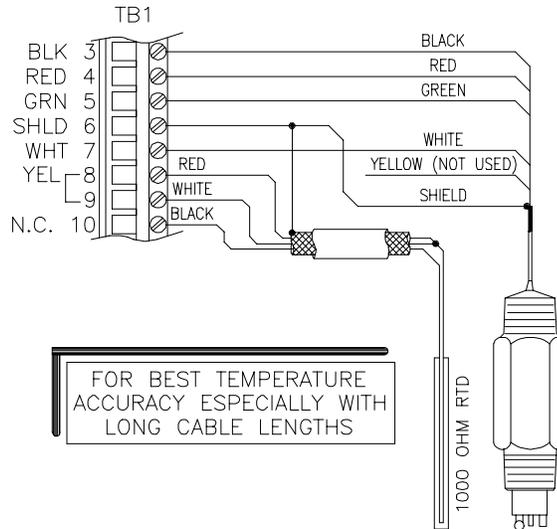

FIGURE 2-6
3. Refer to Figure 2-6 and connect the sensor (or interconnect) cable wires – except the yellow wire – to TB1, matching colors as indicated.
Alternate 3-wire hookup: For best temperature accuracy, especially with long cable lengths, connect the external temperature sensor to Terminals 8, 9, and 10 on TB1 as shown in Figure 2-6 and disregard the terminal designations.